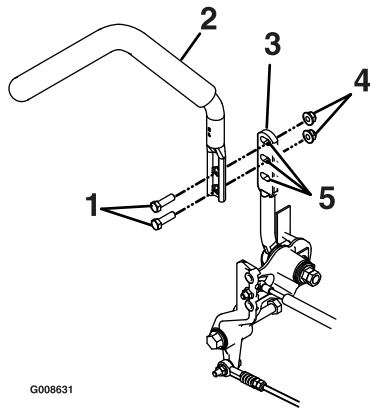

Figure 37
1. Remove the two bolts holding the control lever to the control arm shaft (Figure 37).
2. Loosen the lower bolt just enough to pivot the control lever fore or aft Figure 37. Tighten both bolts to secure the control in the new position.